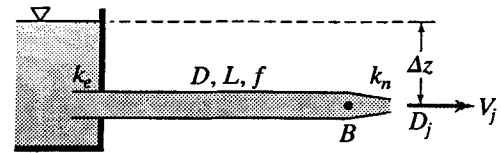

Figure X8.27.1
8.27.1 An 8-in-diameter pipeline ( $f = 0.028$ ) 500 ft long discharges a 3-in-diameter water jet into the atmosphere at a point which is 250 ft below the water surface at intake (Fig. X8.27.1). The entrance to the pipe is reentrant with  $k_e = 0.9$ , and the nozzle loss coefficient is 0.045. Find the flow rate and the pressure head at the base of the nozzle.